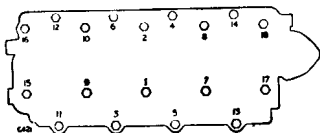

Fig. 44. Order of tightening cylinder head bolts
- (23) Tighten down the cylinder head bolts in the order indicated in Fig. 44. The $\frac{1}{2}$ in. U.N.F. bolts including those that secure the rocker shaft brackets must be pulled down to 65 lb. ft. (8,9 kg.m), $\frac{5}{8}$ in. U.N.F. bolts should be tightened to 12 lb. ft. (1,6 kg.m). Engine hot for final check.